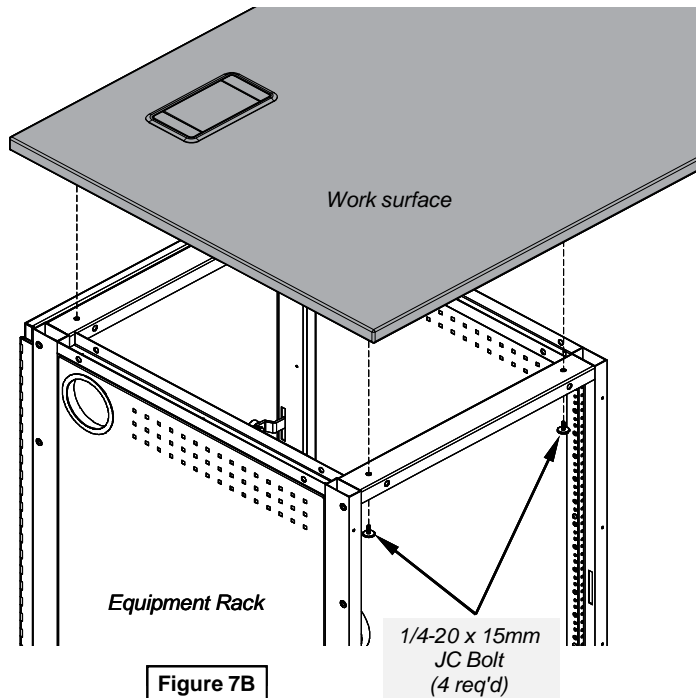

Figure 7B
- Set the work surface onto the equipment rack and any adjacent assembled wall filler panels (if applicable). **Figure 7B.**
- Attach work surface with (4) 1/4-20 x 15mm JC bolts.